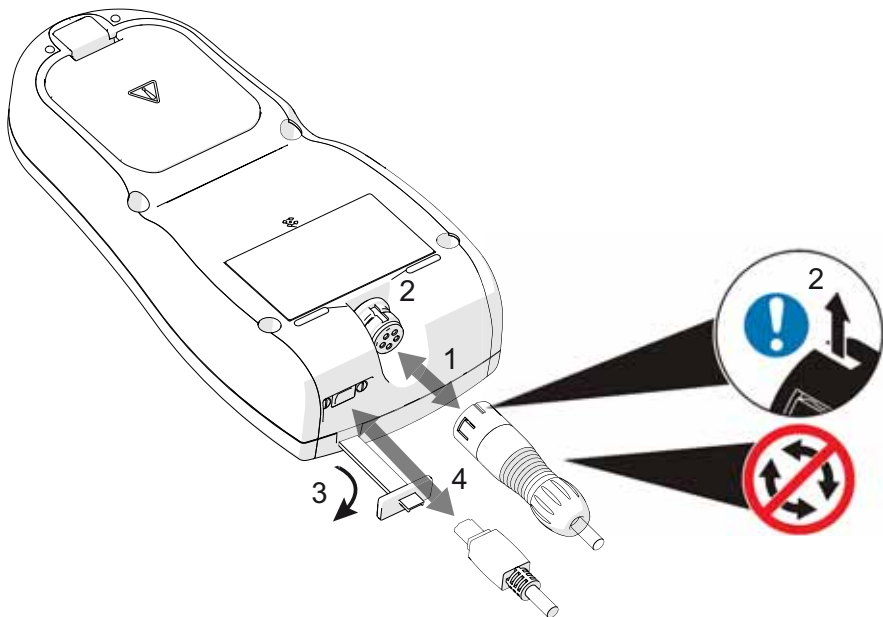

Figure 3 Probe and USB connections
1. Connect the probe to the meter as shown in Figure 3 Probe and USB connections.
3. Remove the protector from the connector (Figure 3 Probe and USB connections).